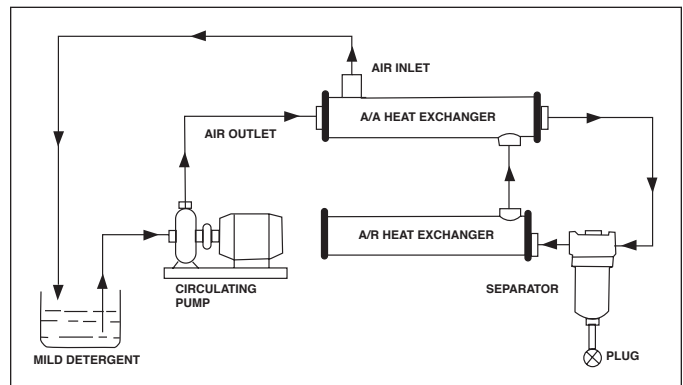

FIGURE 3 — BACK FLUSH FLOW DIAGRAM
5. Check the pressure drop across the air dryer at full capacity flow. If it is higher than specified value (normally 5 PSI or less), consult factory. If pressure drop increases over years of operation, it may be due to particulate buildup from air compressor intake. In that event, back-flush the dryer with any **MILD DETERGENT**. See Figure 3.
| <p>K. Unit runs but low outlet air pressure.</p> | <ol style="list-style-type: none"> 1. System pressure low. 2. Precooler and/or evaporator clogged. 3. Incorrect piping. 4. Air overload. 5. Unit too small. 6. Excess water in unit. 7. Clogged air compressor intake filter. 8. Dirty air system. | <ol style="list-style-type: none"> 1. Increase pressure. 2. Back flush using mild detergent, Figure 3, Page 12. 3. Increase line size and/or correct piping as required. 4. Reduce airflow. 5. Add another unit or replace with larger unit. 6. Check drain, repair or replace if needed. 7. Clean or replace air intake filter. 8. Back flush as described in Figure 3, Page 12. |